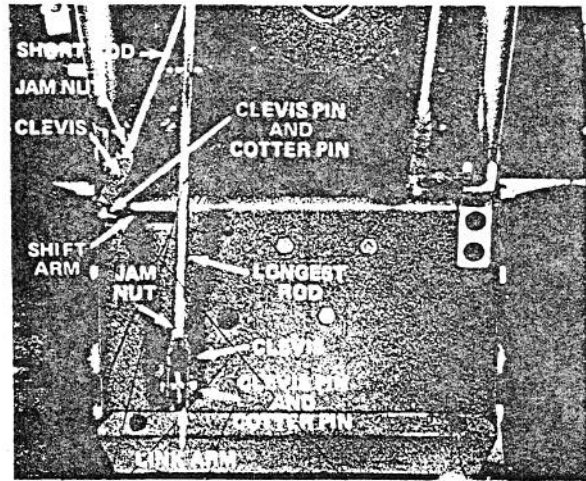

Figure 7
2. While holding wheel drive control lever in position, push up on long rod and rotate clevis until holes in clevis line up with hole in link arm (Fig. 7). Next, secure clevis and link arm together with clevis pin and cotter pin (Fig. 7).
4. Move shift arm fully to the left (Fig. 7). Next, rotate clevis at end of shortest rod until holes in clevis line up with hole in shift arm (Fig. 7). Secure clevis and shift arm together with clevis pin and cotter pin (Fig. 7).
5. Tighten the jam nut against top of both clevises (Fig. 7). Screw large knob onto wheel drive control lever.